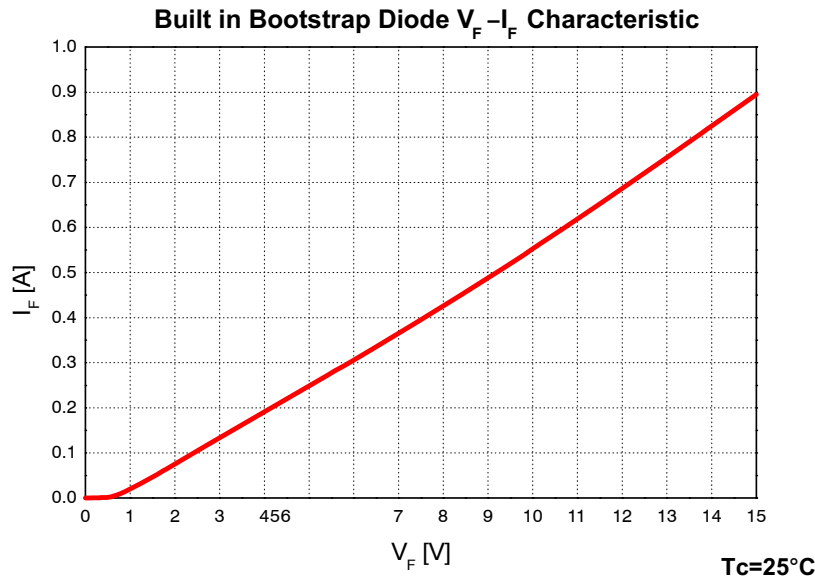

Figure 2. Built in Bootstrap Diode Characteristics (Typ.)
9. Built in bootstrap diode includes around 15Ω resistance characteristic. Please refer to Figure 2.